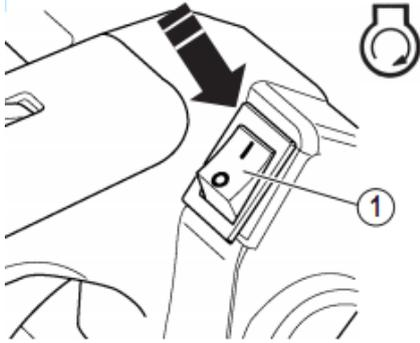

Fig.21
2) Set the on-off switch to "I" position (ON position) (Fig.21 part.1).